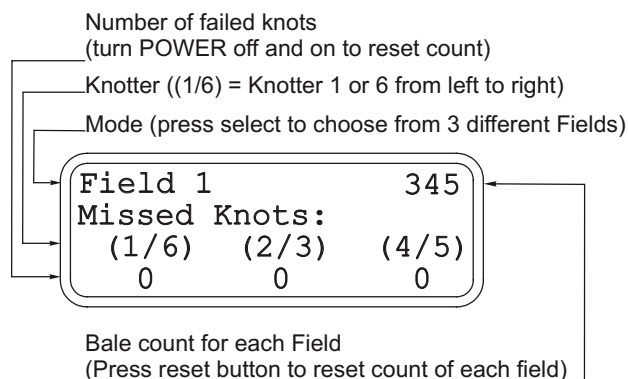

Figure 38 - Field 1 AUTO Mode
5. The Baling screen displays and you are ready to bale (see Figure 38 page 21)